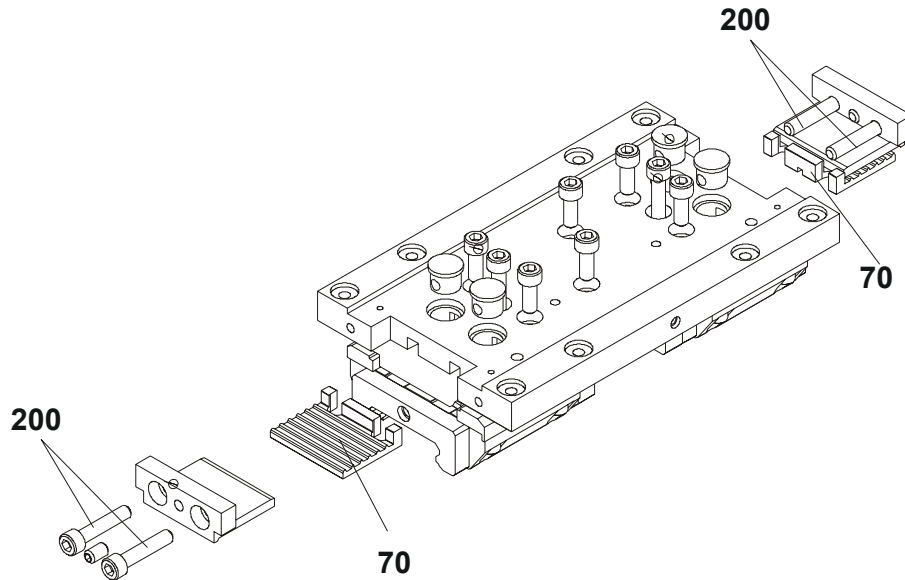

Figure 25: toothed segment
- (4) Remove the defective toothed belt, install the new toothed belt.
- (5) Insert the toothed belt in the gear segment (pos. 70, *Figure 25*).
- (6) tension the pressure piece with the M6x35 screws (pos.200, *Figure 25*) on "block"